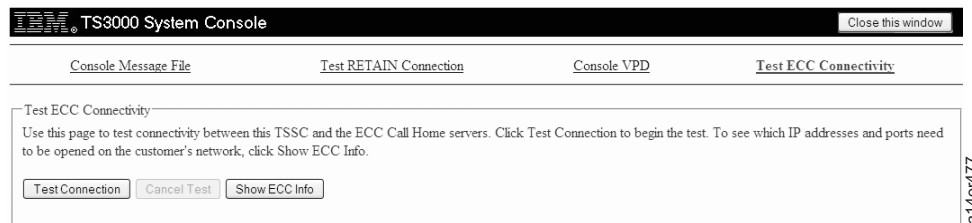

Figure 132. Test ECC Connectivity Screen
5. Click the **Test ECC Connectivity** link at the top of the page. You see the screen shown in Figure 132.